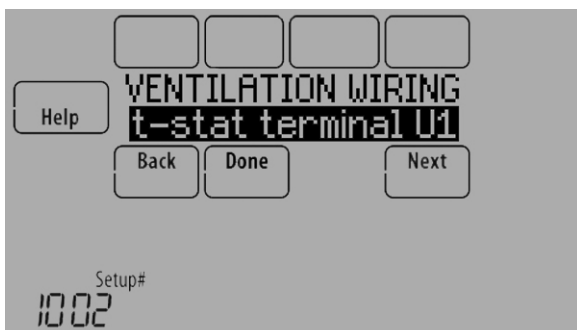

Fig. 227.
2. Select the terminals wired to the Ventilator (or Fresh Air Damper). See Fig. 227.